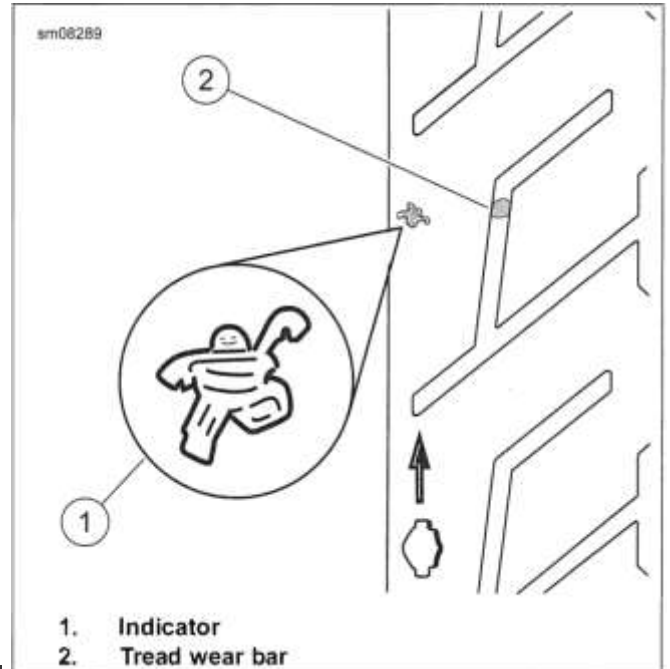
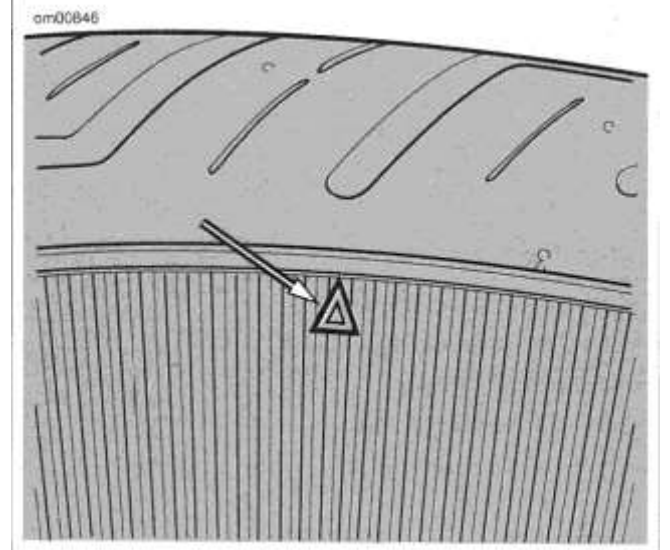
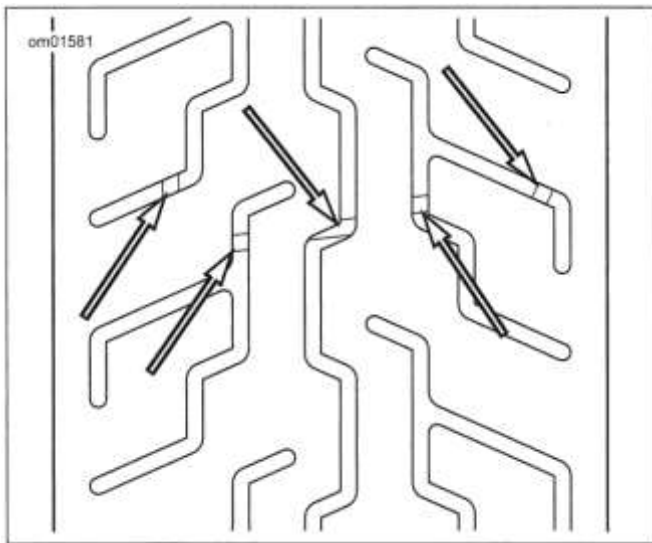

Figure 2-12. Tread Wear Indicator: Michelin Tires
Figure 2-13. Dunlop Sidewall Tread Wear Indicator Bar Locator
Figure 2-14. Dunlop Tread Wear Indicator Bar Appearance
2. See Figure 2-12, Figure 2-13 and Figure 2-14. Inspect each tire for wear. Replace tires before they
See Figure 2-12 or Figure 2-13 . The locations of tread wear indicators are identified by the marks on the tire sidewalls.